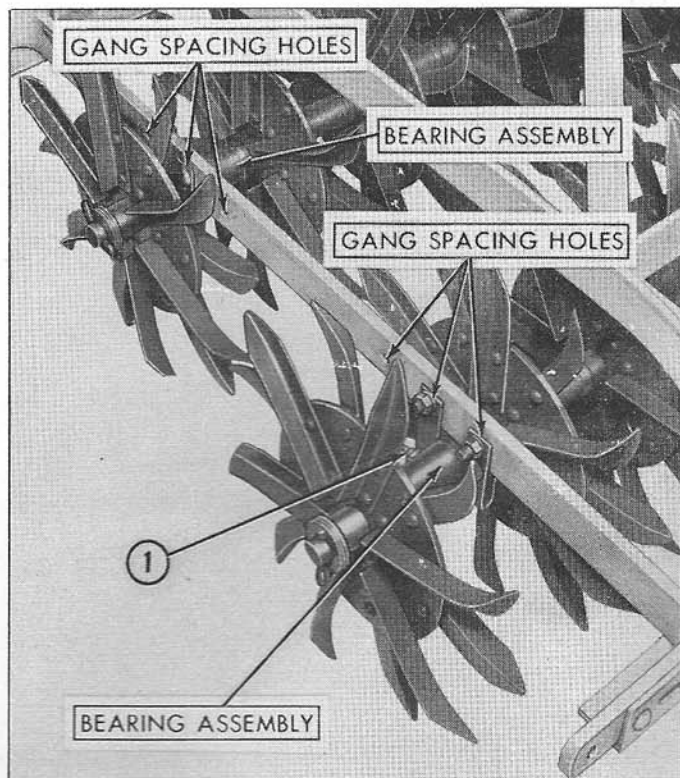

Figure 1
Setting Space Between Gangs: Figure 1 shows the location of the series of three holes in the frame that are used to change the spacing between the front and rear gangs. For normal operating con-
ditions, set the gangs as far apart as possible, as shown in Figure 1. For extremely trashy conditions, set the gangs as close together as possible. This will enable the rear gangs to clean the trash off of the front gangs.
A lubrication fitting (1), Figure 1, is located on each of the four bearings for each section. Wipe the fittings clean and force enough grease into the bearings to carry out the grit and dirt and to seal the bearings from outside dirt and dust. Lubricate every eight hours, or more often if required, with a good grade of grease.
IMPORTANT: Make sure the hoe teeth (2) on each gang are facing the same direction and that the hoe wheels are staggered. Space the gangs as far apart as possible as shown in Figure 1, unless operating in extremely trashy conditions. The gangs then should be close together to enable the rear gangs to clean the front gangs.